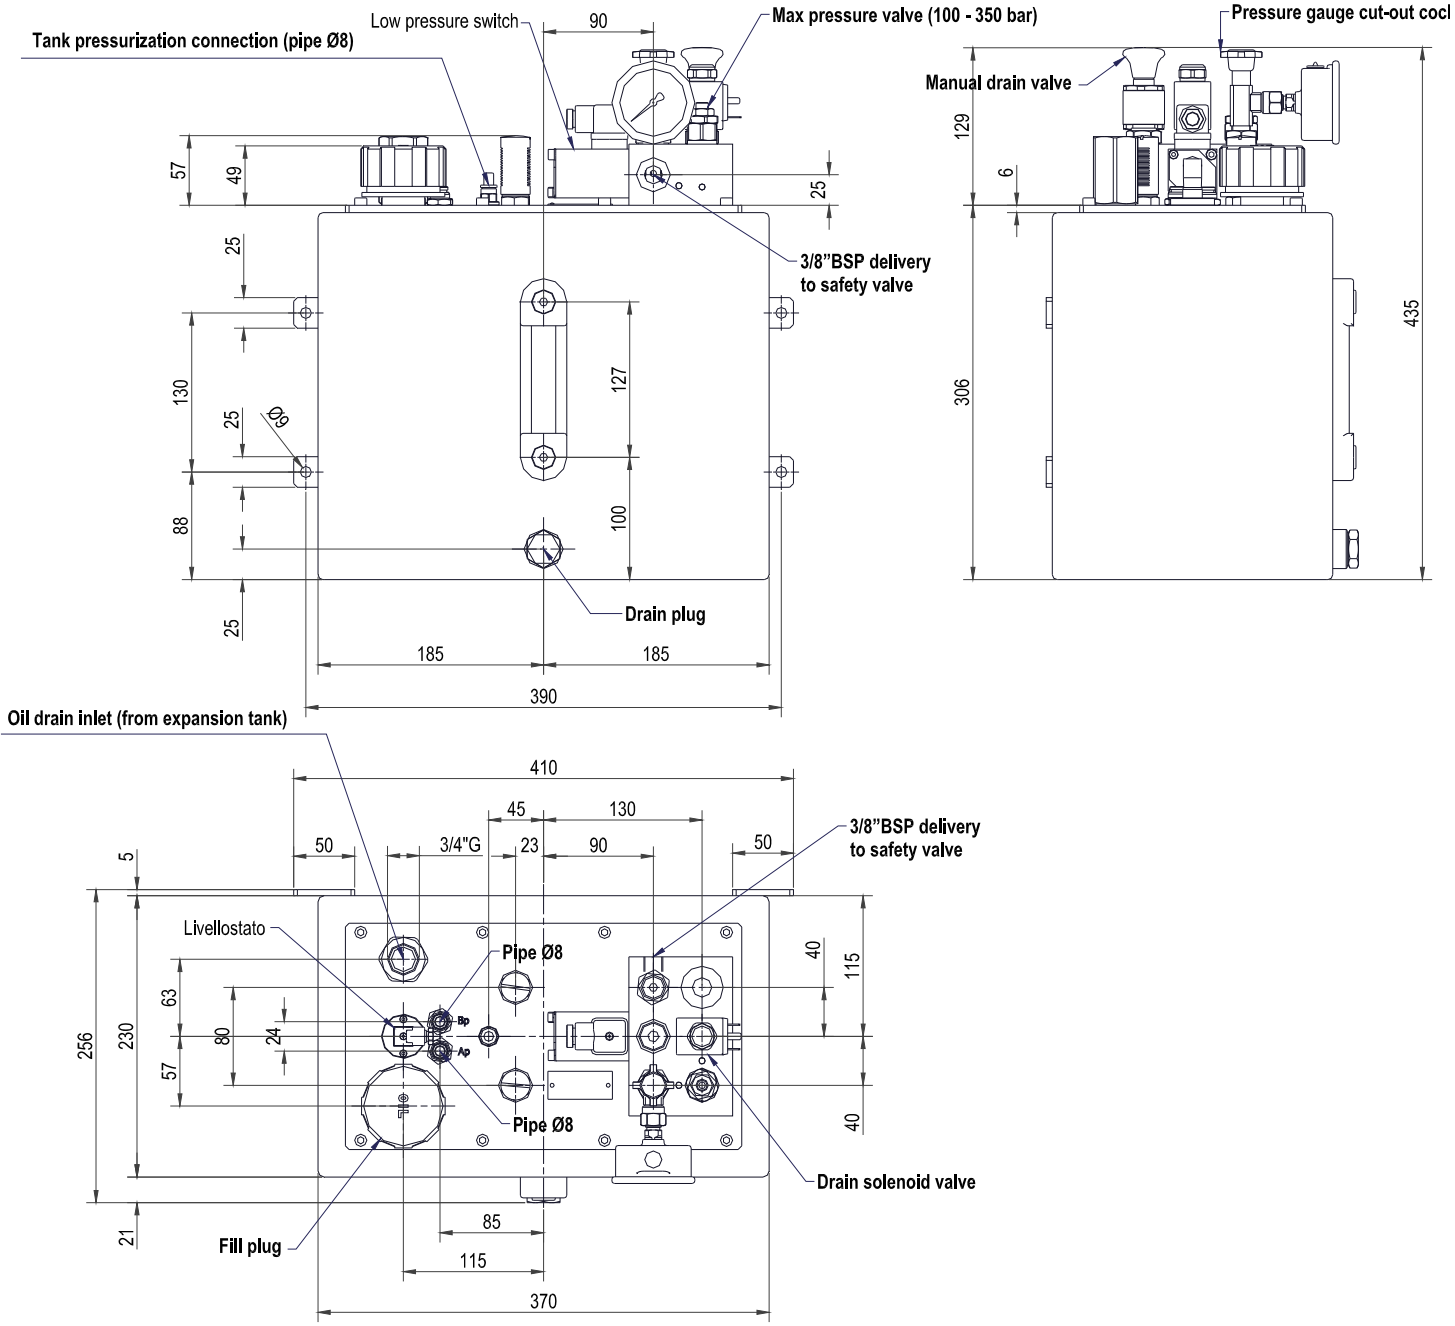

fig.3
## Code 5-1698-\*0 control unit (figure 3)
**Code 5-1698-\*-0 control unit (figure 3)**